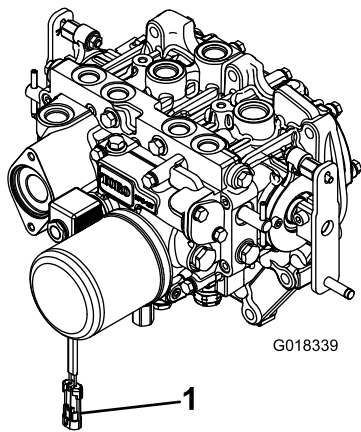

Figure 3
2. Disconnect the wire-harness connector from the PTO solenoid-valve-coil connector (Figure 3).
8. After you connect the other end of the driveshaft to the attachment gearbox shaft, connect the wire-harness connector to the PTO solenoid-valve-coil connector (Figure 3).